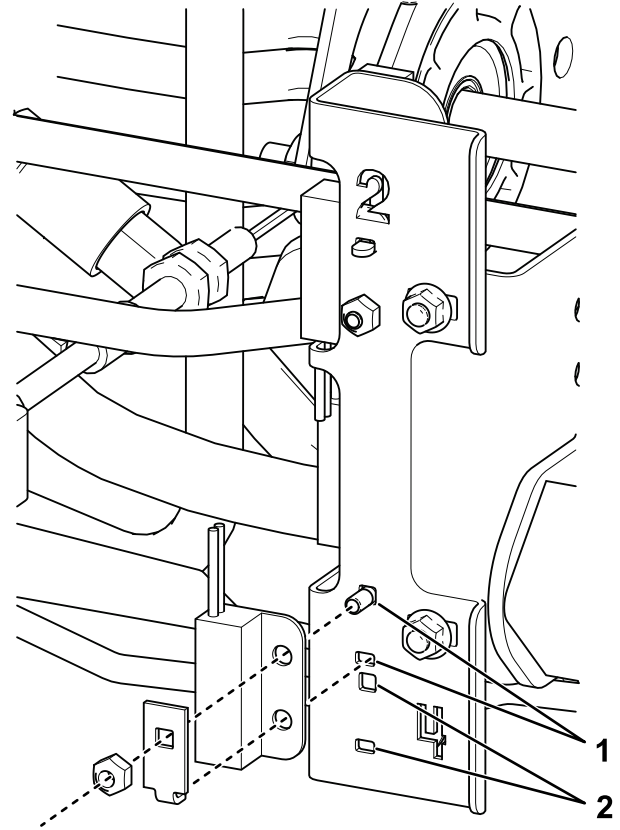

Figure 32
3. Locate the proximity-switch assembly on the H-frame assembly (Figure 32).
4. Assemble the #4 switch in position required by the aeration depth as shown in Figure 32.